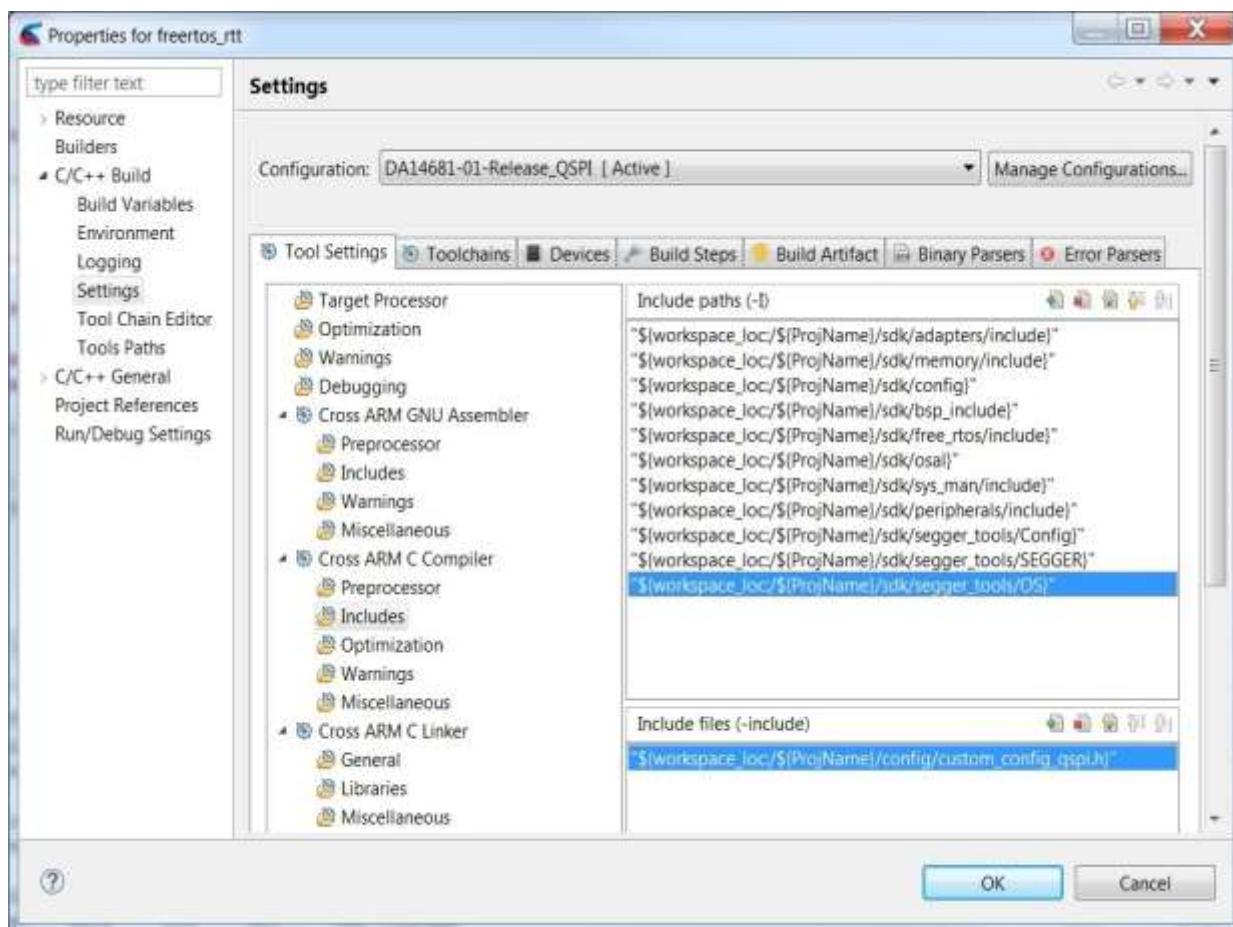

Figure 94: Include folder paths
4. Right click project's name and go to **Properties > C/C++ Build > Settings > Tool Settings > Cross ARM C Compiler > Includes > Include Paths** (see Figure 94), add the following Workspace folders and click apply: